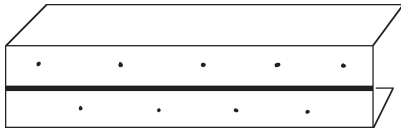

Figure 1
1. Run a liberal bead of sealant along the back surface of wall hanger and install to existing structure. *(See Figure 1 and 2.)*